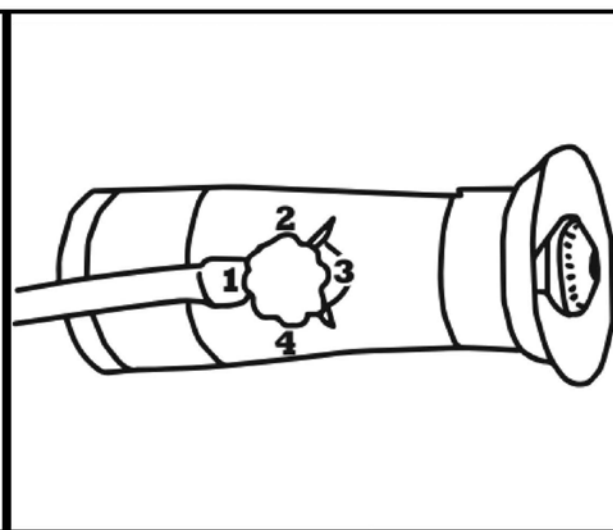

FIGURE 6
4. **Spray Pattern-** To adjust spray pattern use the knob on the horn nozzle. 1 being the least amount of flow and 4 being the most. See Figure 6.